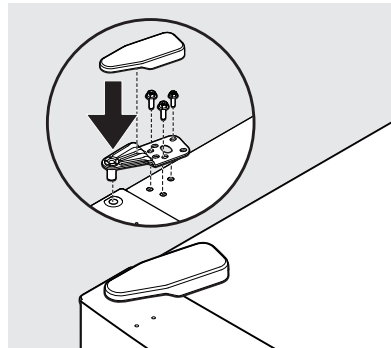

Figure 10
20. Using a Phillips™ screwdriver or a 5/16" wrench, secure the top hinge using three 5/16" screws. Replace the top hinge cover (see Figure 10).